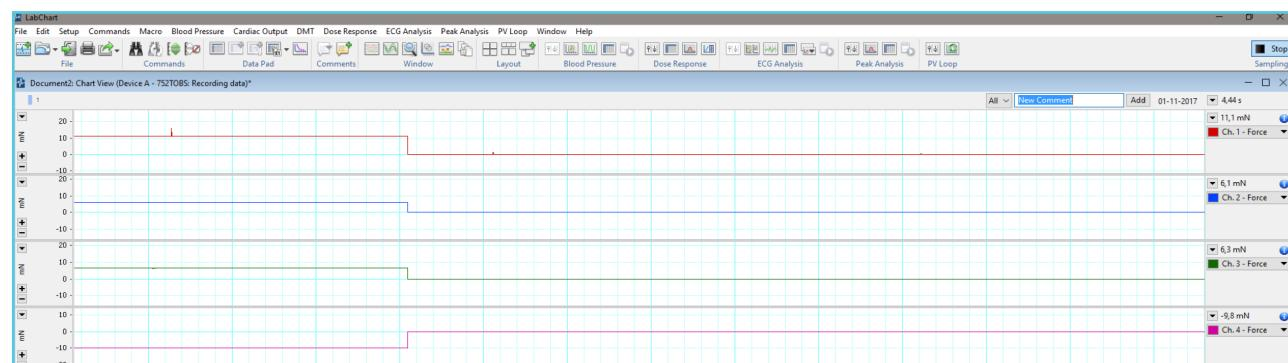

Figure 69: Labchart trace when Zero Force is pressed.
Step 5: Now, go into LabChart (figure 69), or a similar data acquisition system and start collecting data. Select the All and then click on the Zero force in the main control windows as shown in figure 68-69.